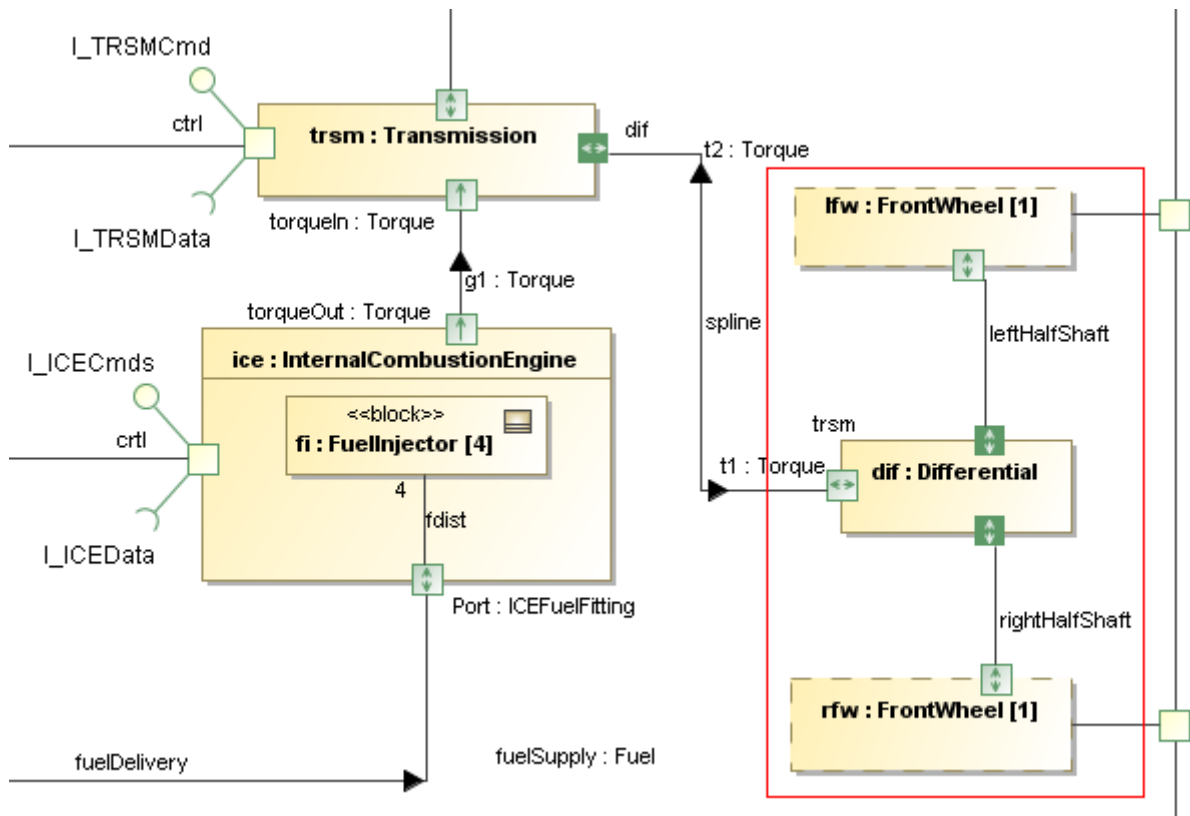

Figure 95 -- Internal Block Diagram Before Extracting a Structure
1. In an Internal Block Diagram or a structure compartment (Figure 95), right-click a portion of the internal structure (part(s)) which you want to move or reuse (see the red selection rectangle).